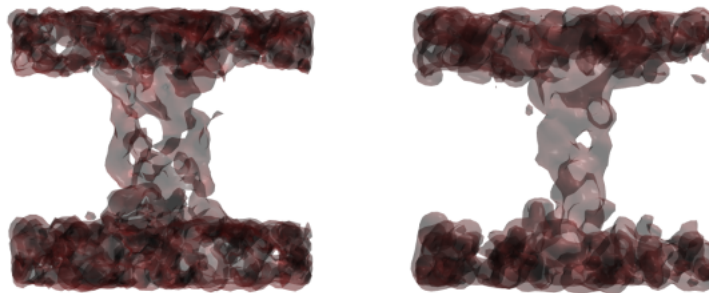

Figure 6: Chloride and Sodium density as determined by the VMD volmap plugin.
- 2 Once the computation is done, load in VMD the resulting file (`efcldens.dx`) as a new molecule. We will use in this case the default **Isosurface representation** In the Graphical Representations window change the **Isovalue** to 0.001 and then change the **Draw** option from **Points** to **Solid Surface**. Finally, change the **Material** from **Opaque** to **Transparent**. You should be able to see the distribution of Cl ions around the cell as shown in Fig. 6.